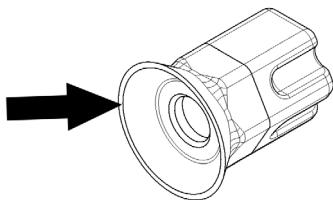

figure 18
- 2 Every month:** check that the hexagonal joint gasket is not worn. If it is, replace the joint itself with an original spare part from the manufacturer (see figure 18).